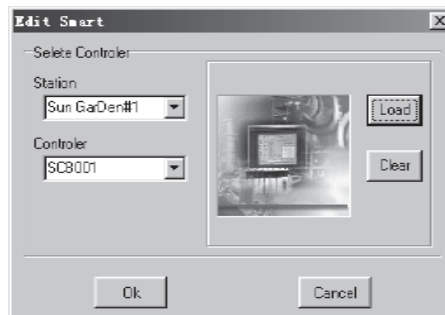

Fig. 4-32 Interface of Inserting Controllers
2. Write down the picture of the corresponding FAB controller as in Fig. 4-32 and the click the 'Confirm' button. Thus the inserting FAB controller is completed.